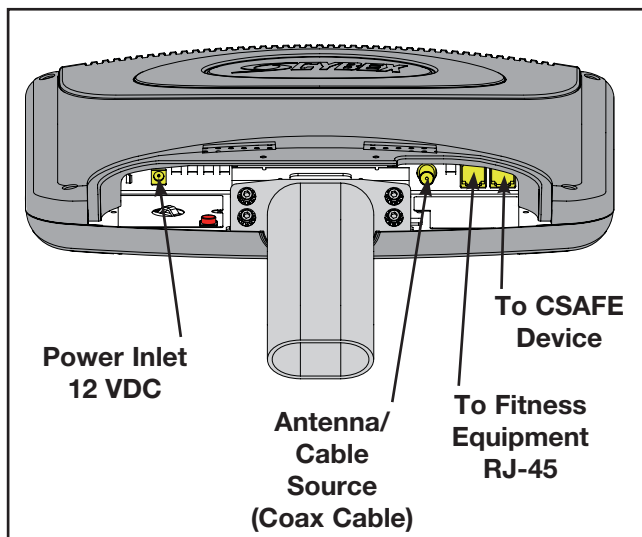

Figure 21
- F. Insert the power cable, coax cable and RJ-45 cable into the monitor as shown in Figure 21. **NOTE:** Use of the CSAFE port is optional and requires a CSAFE cable and device.